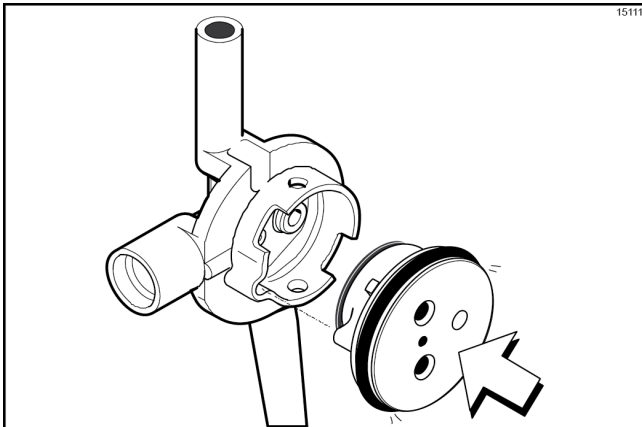

Figure-149
7. Insert the valve cap into the hole in the mix inlet adapter. (See Figure-149.)